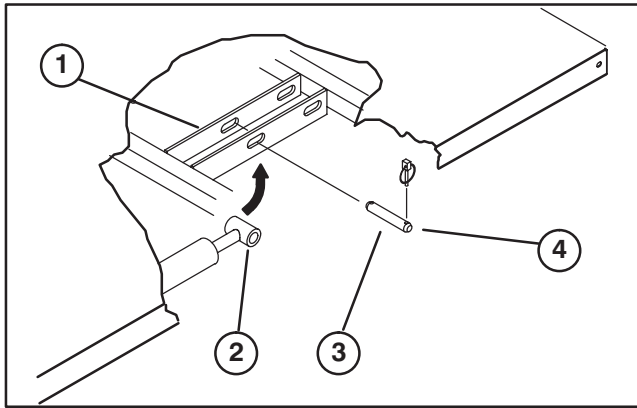

Figure 2
1. With bed lowered, remove clevis pins and lynch pins securing each cylinder rod end to bed mounting plates (Fig. 2).